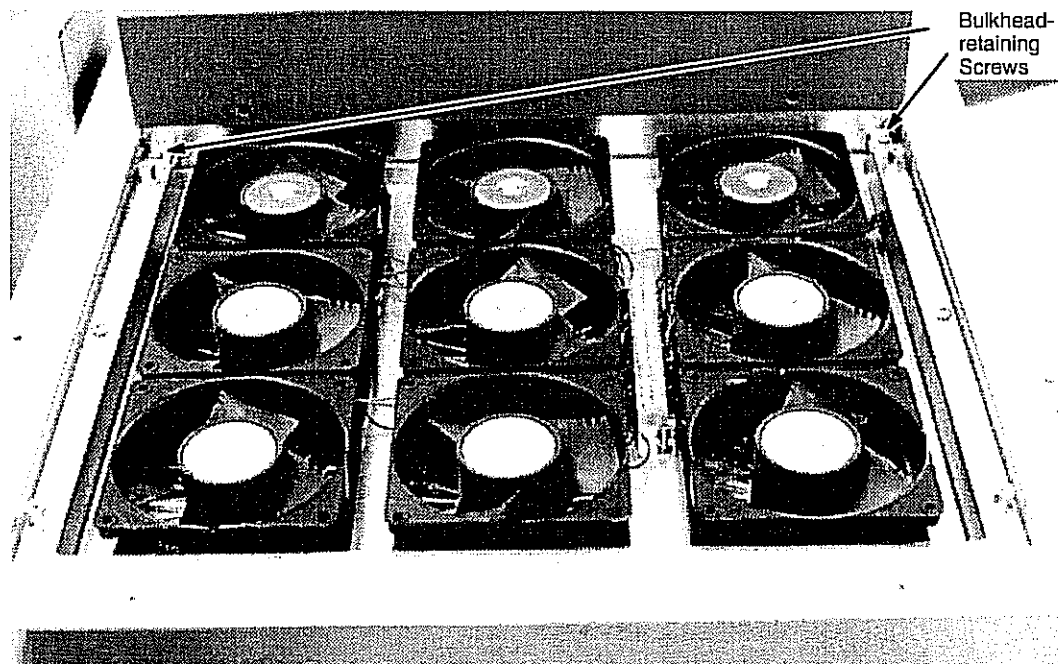

Figure 7-24. Bulkhead-retaining Screws
13. Remove the four bulkhead-retaining screws. Refer to Figure 7-24.
3. Replace the four bulkhead-retaining screws. Refer to Figure 7-24.